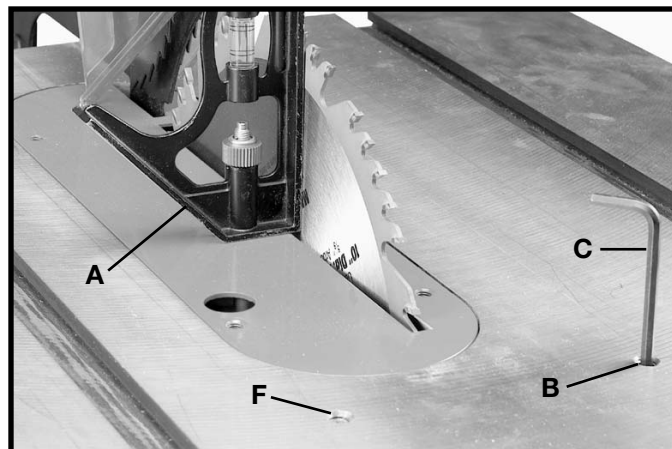

Fig. 99
4. Use a combination square (A) Fig. 99 to see if the blade is at 90 degrees to the table surface.
5. If the blade is not at 90 degrees to the table, loosen set screw (B) Fig. 99 with 5/32" allen wrench (C), and turn the blade tilting handwheel until the blade is 90 degrees to the table. Turn set screw (B) clockwise until it bottoms.
8. If the blade is not at 45 degrees to the table, loosen set screw (F) Fig. 99, and turn blade tilting handwheel until the blade is 45 degrees to the table. Turn set screw (F) clockwise until it bottoms.